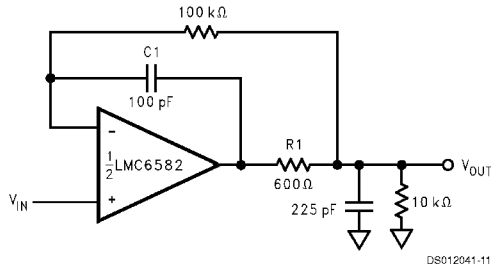

**FIGURE 8. Pulse Response of the LMC6582 Circuit in *Figure 7***
*Figure 8* displays the pulse response of the LMC6582 circuit in *Figure 7*.